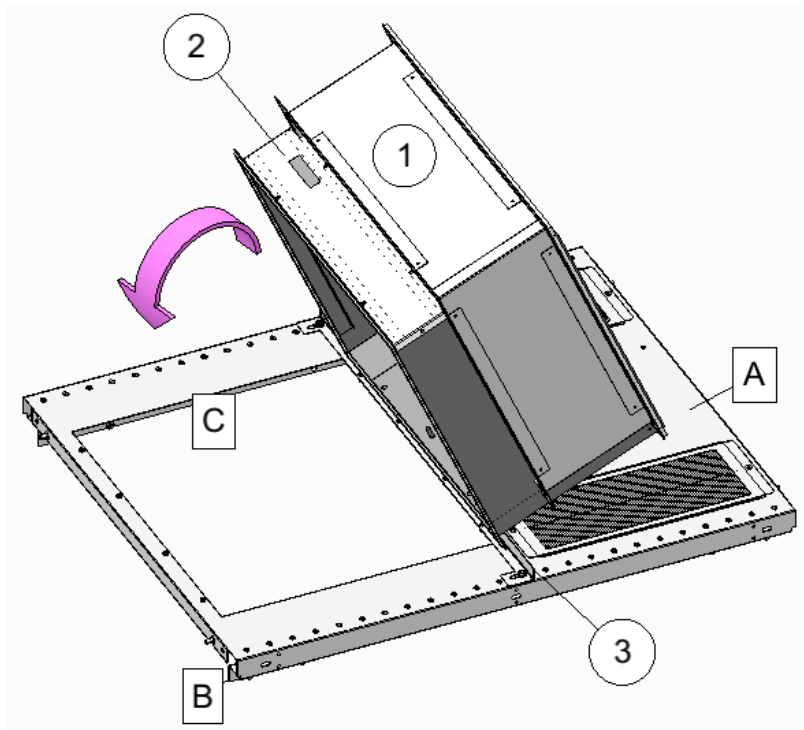

Figure 4: Stand Chimney Base and Top Upright
Using TWO people, one on each side, slide the Chimney Base (2) and Chimney Top (1) towards the FRONT of the enclosure (A). Then tilt the unit forwards towards the REAR of the enclosure (B), as shown in Figure 4.